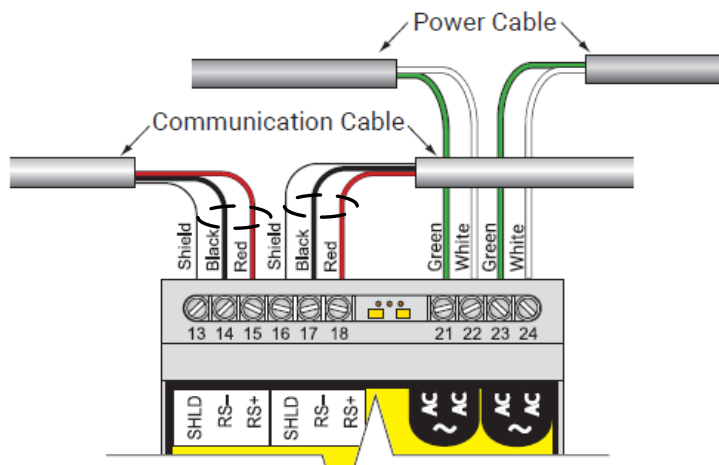

Fig.1
- c. For longer network runs we recommend separate shielded cables are used (the RS485 cable must still be a shielded twisted pair) (Fig.1).